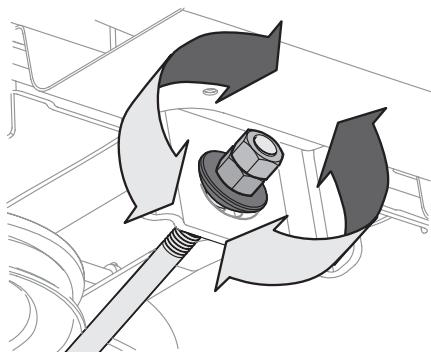

Figure 37
4. To raise the front of the deck, loosen the outer nut then tighten (thread inward) the inner nut against the front hanger bracket (Figure 37). When proper adjustment is achieved, re-tighten the outer nut to 25-30 ft-lbs (34 mm-40.7 N·m).
5. To lower the front of the deck, loosen the outer nut then loosen (thread outward) the inner nut, away from the front hanger bracket (Figure 37). When proper adjustment is achieved, re-tighten the outer nut.